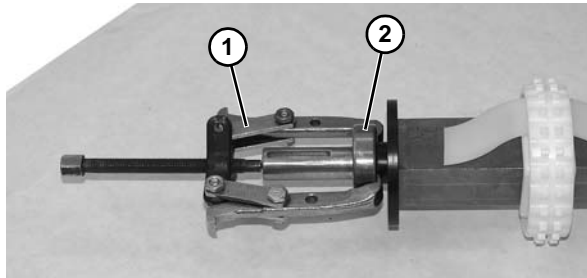

Figure 69
11. Using puller (**Figure 69, item 1**), as shown, remove bearing (**Figure 69, item 2**) from shaft assembly. Repeat on opposite side, if needed.